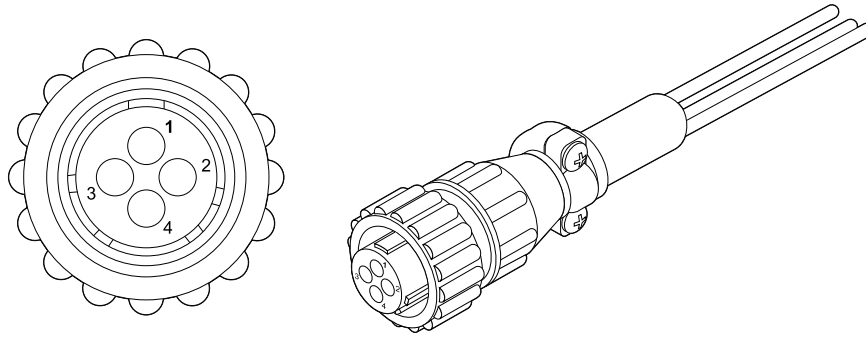
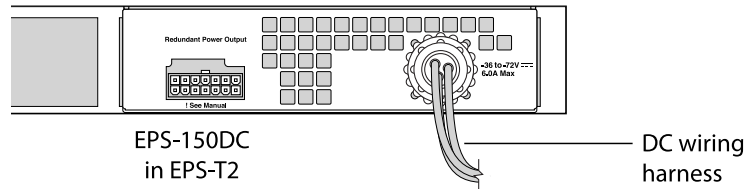

Figure 296: Three-wire Cable Harness
Figure 297: Connecting the Input Cable to the EPS-150DC Unit
A three-wire, 6-foot long DC wiring harness (shown in Figure 296 on page 366) is included with the EPS-150DC unit. The DC wiring harness must be properly connected to the DC source voltage at your facility by a qualified electrician before the connector on the wiring harness can be attached to the DC power supply socket on the rear of the unit. See Technical Specifications on page 522 for information about connector pinouts and for DC power specifications to be used in connecting the wiring harness to the DC source voltage.
2. Plug the DC cable connector into the DC power supply socket on the rear of the EPS-150DC unit. The pins must align properly for the cable to completely connect. Do not force the cable into the socket until the keyway is aligned properly. Refer to Figure 296 on page 366 for the DC wiring harness connector and to Figure 297 for the DC power socket location on the rear of the EPS-150DC unit.